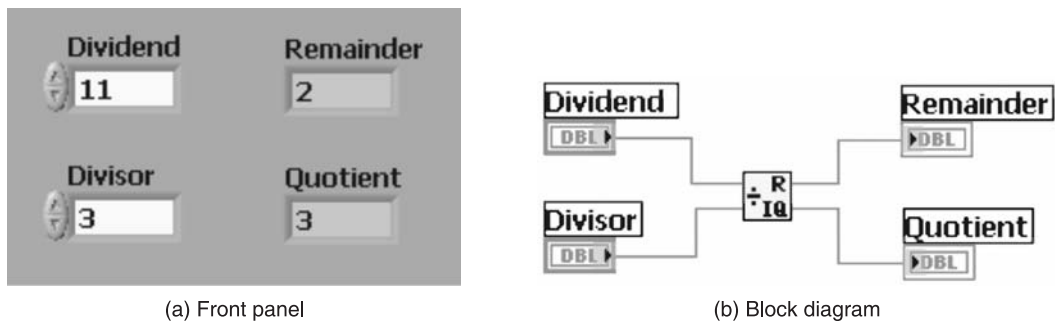

Figure P2.4
**Solution** The front panel and block diagram for finding the remainder and quotient are shown in Figures P2.4(a) and P2.4(b).